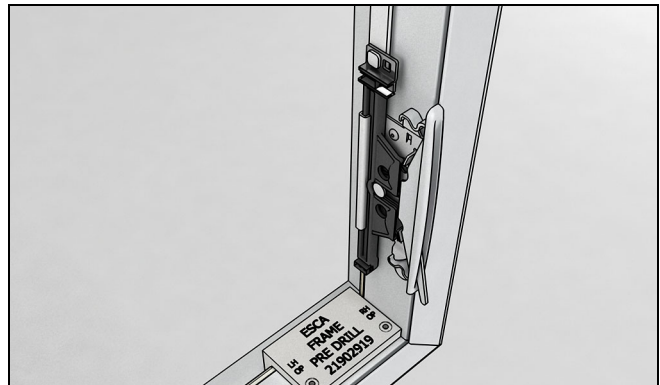
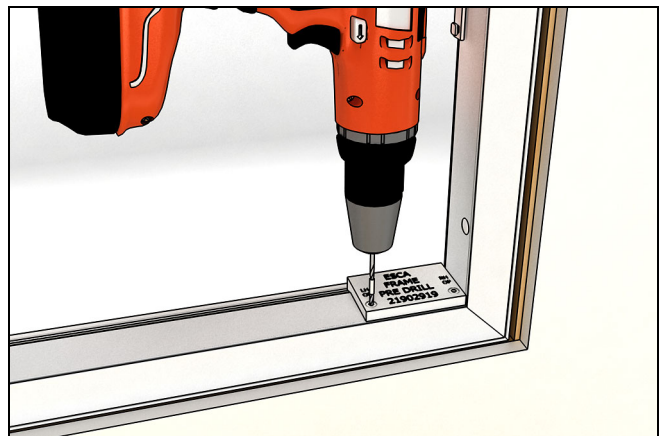

Figure 1 Frame prepared to be drilled.
Figure 2 Proper frame jig placement.
4. Place frame jig on exterior sill and place tight against the locking-side jamb. Apply constant pressure to avoid jig movement while drilling. See Figure 1 and Figure 2.